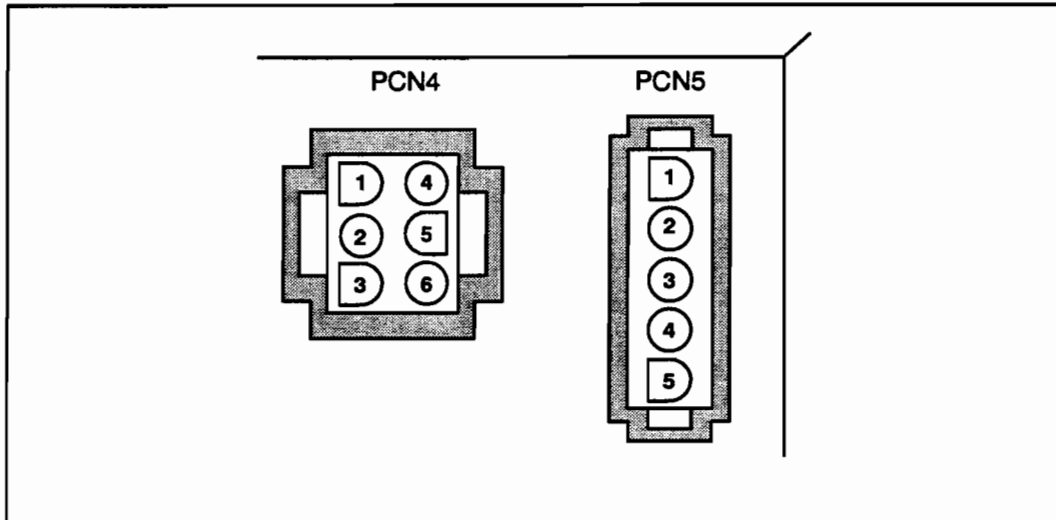

Figure 8-23. HPS Connector Pin Configuration
5. Using the voltmeter, check the power supply output: See Figure 8-23.